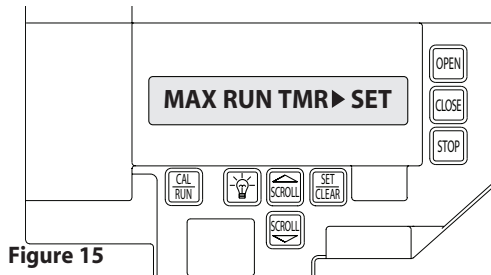

Figure 15
- 2) Press SCROLL  (up or down) until display reads "MAX RUN TMR > SET." **Fig. 15.**